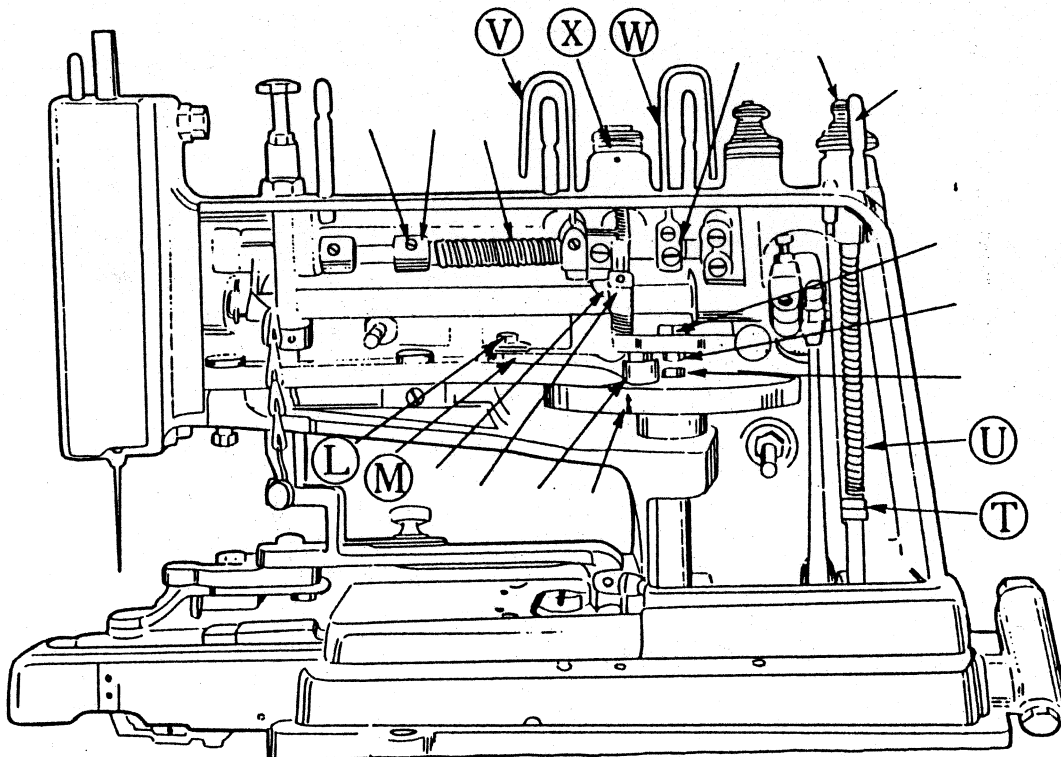

Fig. 9
Moreover, needle must vibrate an equal distance from the center of the looper shaft. To check, remove feed plate or button holder, needle plate and looper. Insert accurately fitting pin or drill No. 20 into looper hole in shaft, loosen hexagon head screw (L—fig. 9) and move lever (M) until needle on both vibrations just touches both sides of pin or drill. Tighten screw (L).
The amount of opening of the automatic tension is controlled by the adjusting nuts (T, fig. 9). Loosen them and turn rod (U, fig. 9) until the desired play is obtained. There should be about $1/64''$ clearance between the upper end of the rod and the tension release washer when the automatic tension is closed without any thread between the tension discs. Securely tighten nuts upon completion of adjustment.
The thread pull-offs (V and W, fig. 9) should move back to the left of the thread post about $1/2''$ when the button clamp is in its highest position. To adjust loosen set screws which lock these parts to the top shaft inside the machine arm and move forward or back as set forth above.
The thread nipper (X, fig. 9) should hold the thread tightly while the machine is in stopped position. It is adjusted by moving the collar downward for tighter thread nipping or upward for less gripping. Be sure to tighten set screw on collar.